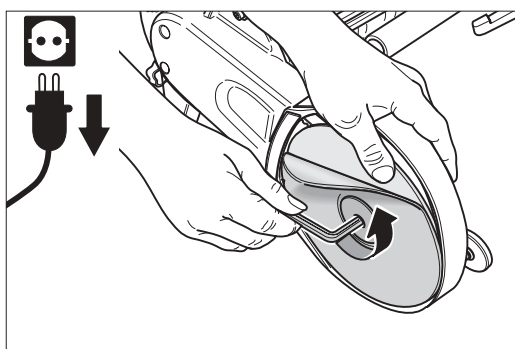

Fig. 47: Undo the sandpaper tensioning screw. To hold the sanding disc wheel, use your thumb to grab behind the sanding disc.
- 4 Use the proper Allen key and undo the sandpaper tensioning screw (normal right-hand thread). At the same time, use your other hand to hold the sanding disc wheel. If you use your thumb to grab behind the sanding disc, you will reduce the wear on the sandpaper tensioning screw (Fig. 47).